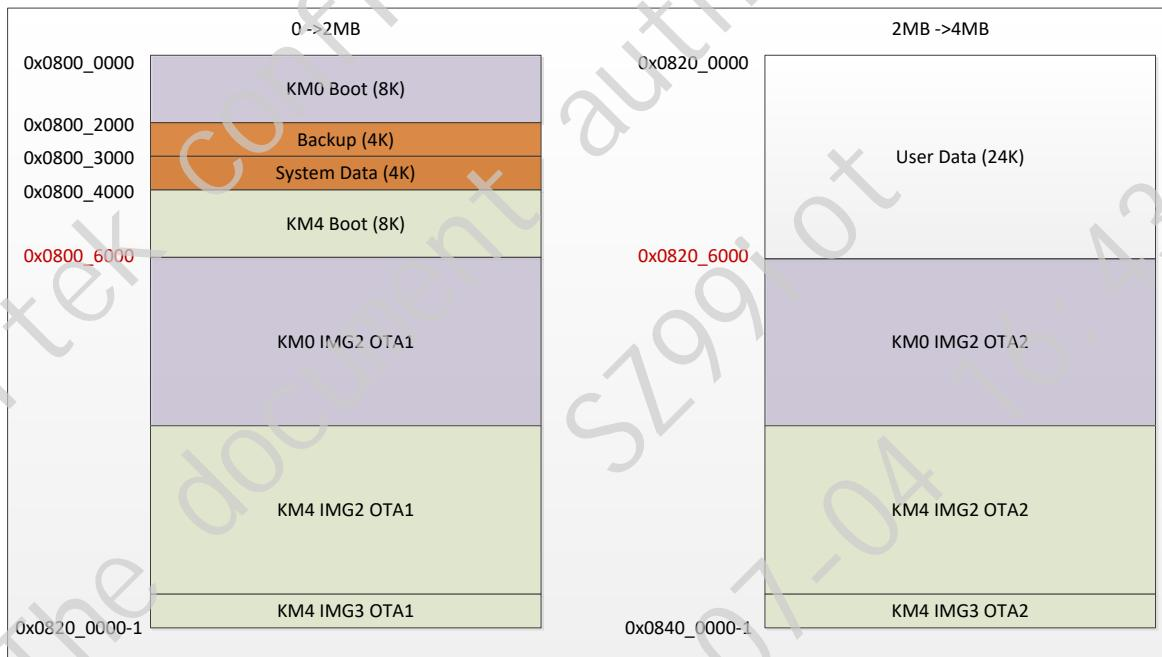

Fig 9-4 4M flash program layout example
For 4M flash, an example of flash layout is illustrated in Fig 9-4. In this example, 2024K flash size can be used for KM0 & KM2 image, and you can modify the layout according to your actual conditions. Because bootloader will be called by ROM code, the address of bootloader cannot be changed. Other addresses except bootloader can all be changed by user, but before you change these addresses, make sure that you are familiar with Ameba-D system and SDK.
- (1) Modify **OTA_Region** in rtl8721d_bootcfg.h, change OTA2 region start address according to your actual flash layout. When using 4M flash program layout example as shown in Fig 9-4, OTA region should be modified as below:
- (2) Modify OTA address definition in rtl8721d_ota.h, redefine **LS_IMG2_OTA2_ADDR** macro according to your actual flash layout. When using 4M flash program layout example as shown in Fig 9-4, OTA address should be modified as below:
- (1) For BT FTL start address, re-define **ftl_phy_page_start_addr** variable in rtl8721dhp_intfcfg.c, note that SPI FLASH address base 0x0800_0000 is subtracted when calculating **ftl_phy_page_start_addr** variable, and **ftl_phy_page** will consume 3*4=12KB flash starting from **ftl_phy_page_start_addr**. When using 4M flash program layout example as shown in Fig 9-4, BT FTL start address should be modified as below:
- (2) For Wi-Fi fast connect profile address, redefine **FAST_RECONNECT_DATA** macro in platform_opts.h, and SPI FLASH address base 0x0800_0000 is subtracted when calculating **FAST_RECONNECT_DATA** macro. Note that Wi-Fi fast connect profile address should not recover the 12KB flash starting from **ftl_phy_page_start_addr**, as this region is reserved for BT FTL. When using 4M flash program layout example as shown in Fig 9-4, Wi-Fi fast connect profile address should be set to 0x202000+0x3000=0x205000.